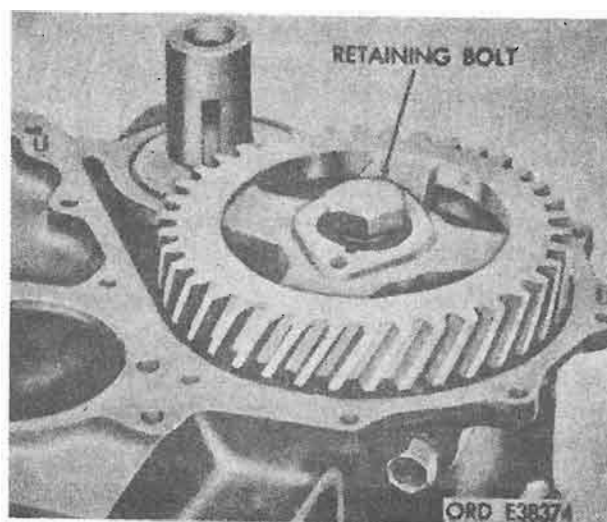

Figure 4-107. Install camshaft gear retaining bolt.
h. **Camshaft Gear Retaining Bolt**. Install camshaft gear retaining bolt in front end of camshaft to prevent damaging threads when removing with puller (fig. 4-107).